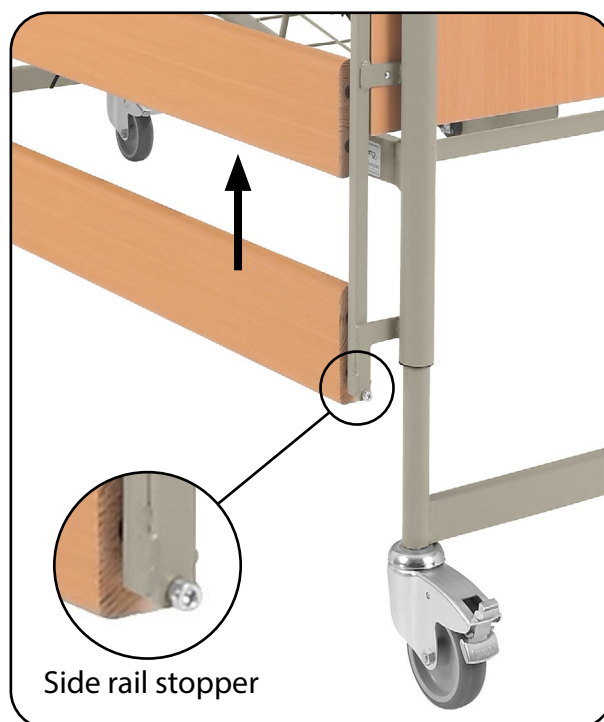

Fig. 6.4.02 – Assembling the side bars
4. Now lift the side bar at the top slat and insert it with the side bar sliders into the rails. In doing so, the rounded edges of the side bar slats must face upwards. Pull the side bar slats upwards by the top slat until both side bar sliders engage (Fig. 6.4.02).